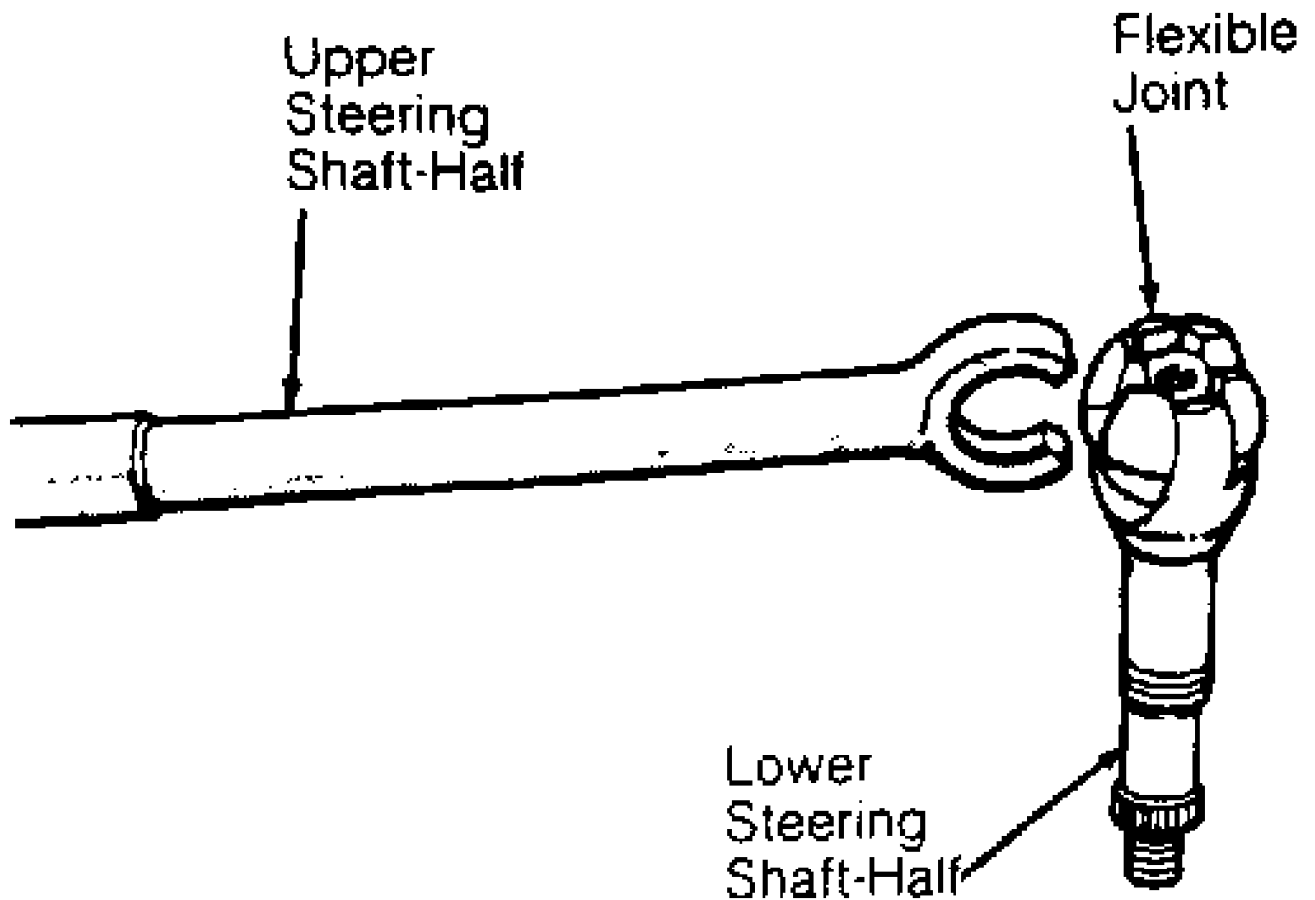

Fig. 6: Identifying Tilt Column Flexible Joint
12) Remove steering shaft from upper end of steering column. Separate upper and lower steering shaft by folding shaft 90 degrees at flex joint and detaching shaft sections. See Fig. 6. Remove steering column support from column. Remove shift gate from steering support (if required).